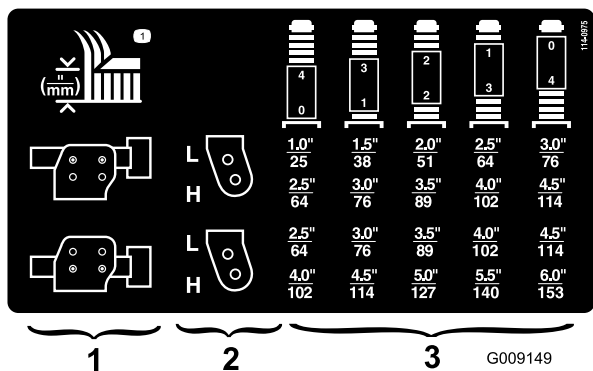

Figure 22
- Position the castor wheel axles in the same holes in all castor forks. Refer to the chart (Figure 22) to determine the correct holes for the setting.
Refer to the chart (Figure 22) to determine the combinations of spacers for the setting: